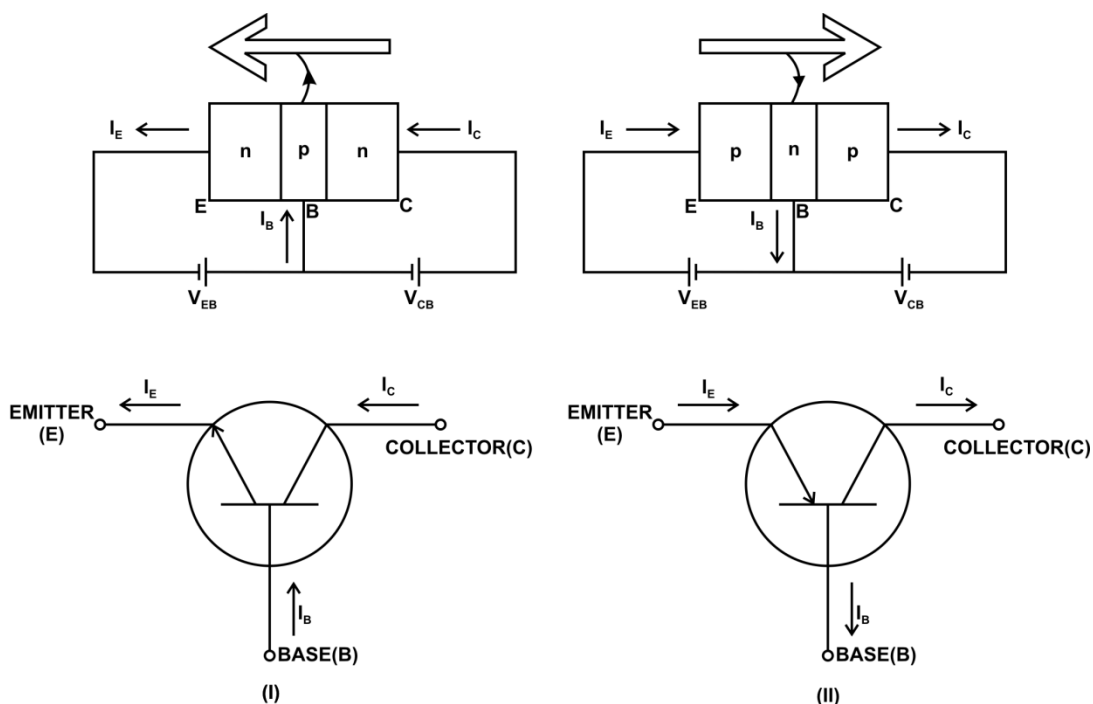

Fig 2.2
- The three sections of the transistor are called **emitter (E)**, **base (B)** and **collector (C)**.
- Symbol for transistors, In the symbol for a transistor, the arrow points hole current i.e. conventional current. Therefore, the emitter in n-p-n transistor is represented by an arrow pointing away from the base, while the emitter in p-n-p transistor is represented by an arrow pointing towards the base. The symbols for n-p-n and p-n-p transistors are respectively shown in Fig. 2.2 (i) and Fig. 2.2 (ii)